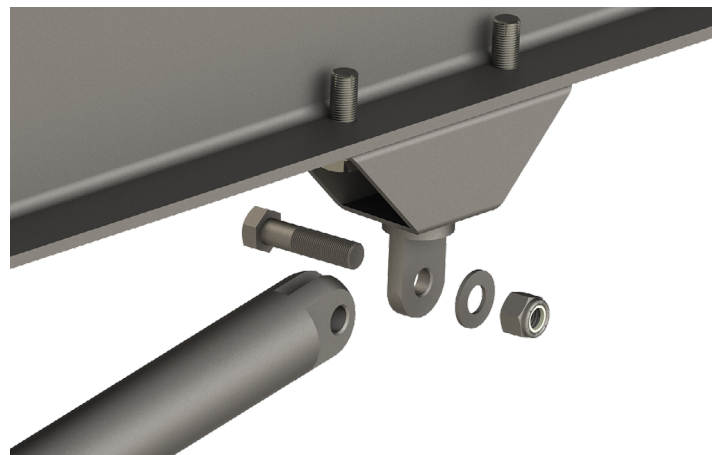

Fig.4
D. Drill remaining mounting hole and secure with a $\frac{3}{8}$ " - 16 x $1\frac{1}{2}$ " bolt, $\frac{3}{8}$ " washer and $\frac{3}{8}$ " - 16 Nylon Locking nut (**Fig.4**).